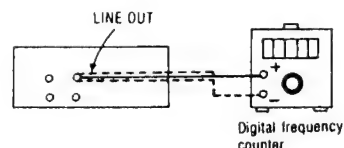

Fig. 3
2. Adjust the VR in the motor (see Fig. 3) so that the output is within the standard value.